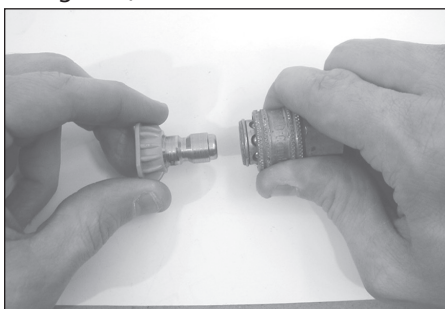

Figure 4 – Quick Connect Tip
6. Install quick connect tip (See Figure 4).